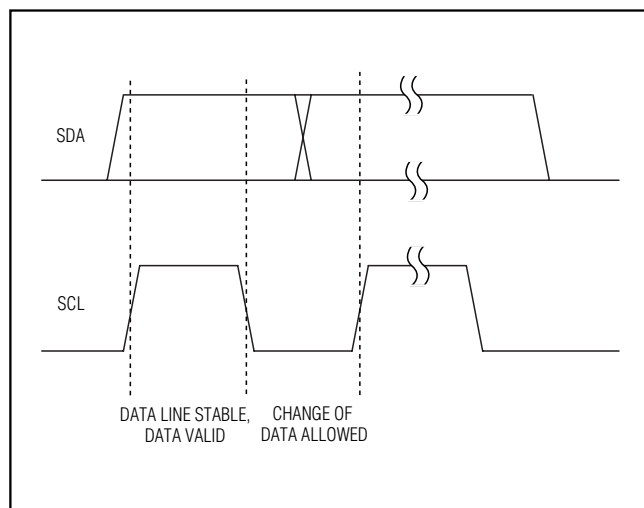
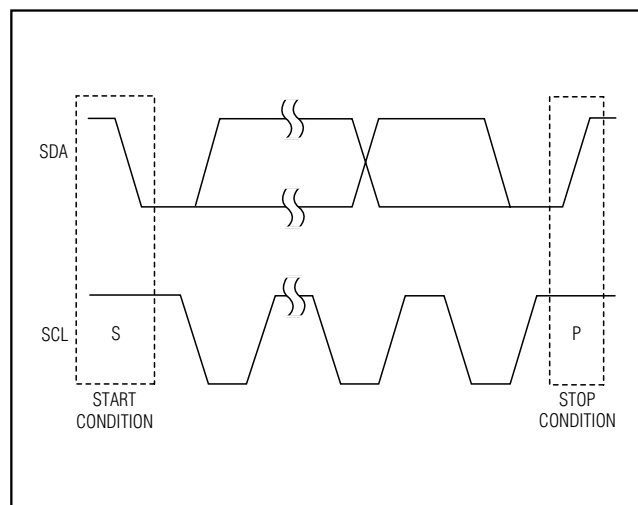

Figure 4. Bit Transfer
Figure 5. Start and Stop Conditions
Each clock pulse transfers one data bit. The data on SDA must remain stable while SCL is high (Figure 4), otherwise the MAX6889/MAX6890/MAX6891 register a START or STOP condition (Figure 5) from the master. SDA and SCL idle high when the bus is not busy.
A master device signals the beginning of a transmission with a START (S) condition (Figure 5) by transitioning SDA from high to low while SCL is high. The master device issues a STOP (P) condition (Figure 5) by transitioning SDA from low to high while SCL is high. A STOP condition frees the bus for another transmission. The bus remains active if a REPEATED START condition is generated, such as in the read byte or block read protocol (see Figure 8). Both SCL and SDA are high when the bus is not busy.